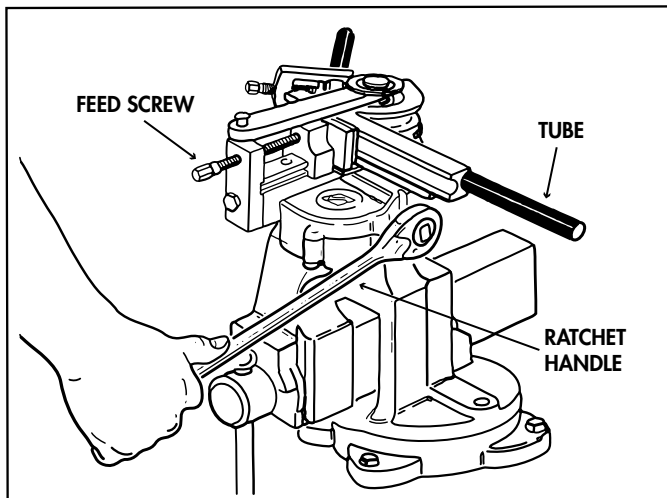

Figure 11. Forming a Bend with Tube Bender Clamped in a Vise
a. Engage the ratchet handle with the square end of the shaft which protrudes from the side of the housing. Rotate the shaft in a clockwise direction. (See figure 11.)